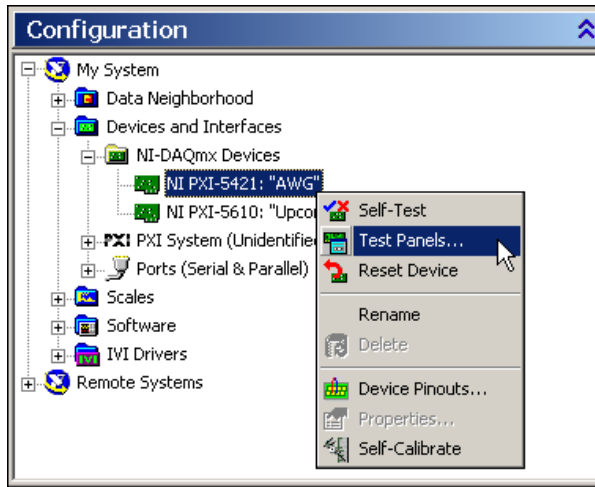

Figure B-6. Open the NI 5421 Test Panel from the NI PXI-5421 Right-Click Menu
19. In the MAX Configuration tree, right-click **NI PXI-5421** and select **Test Panels** as shown in Figure B-6.